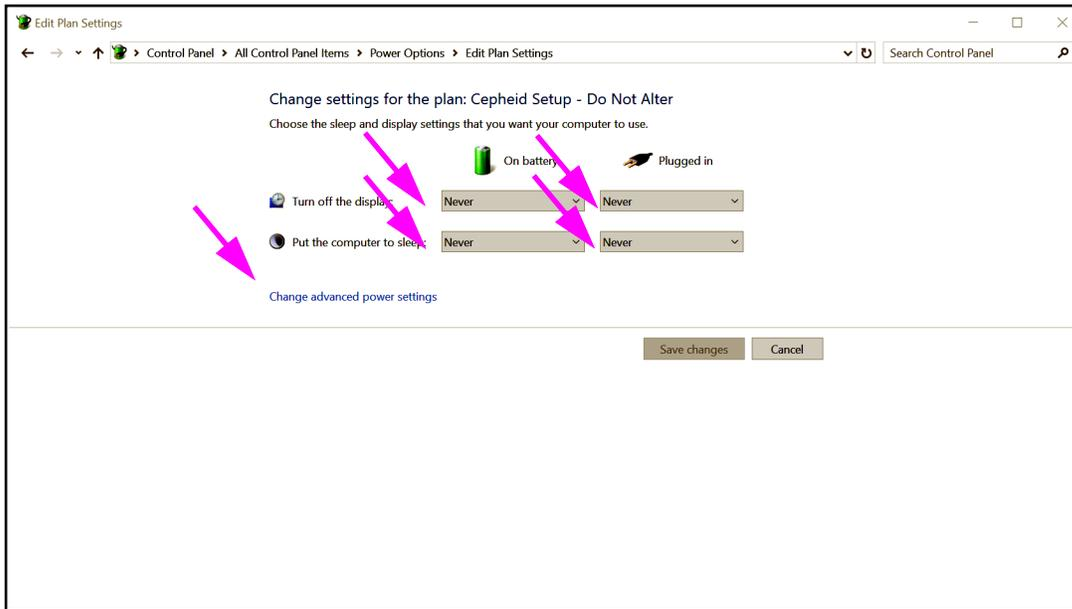

Figure 2-26. Edit Plan Settings Window
3. Under the **Cepheid Setup—Do Not Alter** section, click **Change plan settings**. See Figure 2-25. The Edit Plan Settings windows appears. See Figure 2-26.
4. Make sure the **Turn off the display** and **Put the computer to sleep** features are set to **Never** for both **On battery** and **Plugged in** options. Also, make sure that the **Adjust plan brightness** feature slider is set to its brightest setting. See Figure 2-26.
5. Click **Change advanced power settings** (see Figure 2-26). The Power Options Advanced settings window appears. See Figure 2-27.